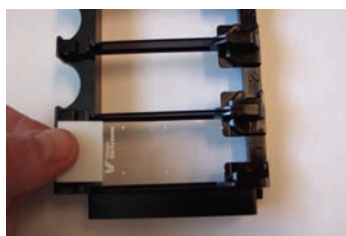

Figure 66: Positioning a slide in a slide tray
2. Orient the slide over an empty position on the slide tray, with the label end of the slide over the indent of the slide position of the tray (see Figure 66).